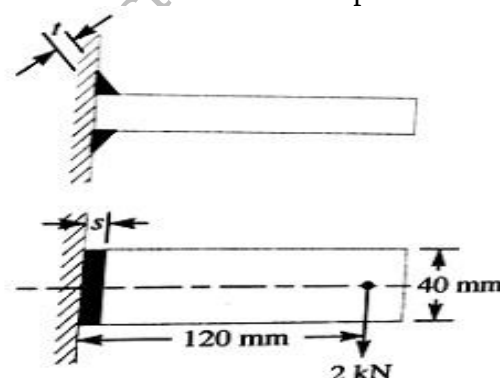

Fig. 2.1(c)
- (c) A welded joint as shown in figure 2.1(c), is subjected to eccentric load of 2kN, find the size of weld, if the maximum shear stress in the weld is 25Mpa. 07